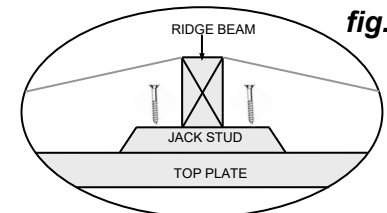

fig. 2
Use the 50mm Clouts only on ribs covered by flashings, shown on pg 13 fig. 2. Pre-drill holes using a 3.5mm drill bit. Use Roofing Screws on all other ribs. Ensure screws are not overtightened as this can damage the seals and cause the shed to leak.
- Secure with 2 x 75mm screws through the top of the Jack Studs into the Timber Top Plate (fig. 2).